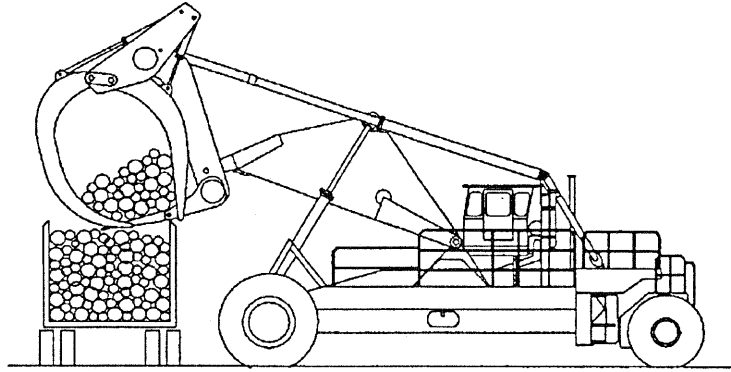

Fig 4-7
3. Work the tines through approximately 1/3 of the load. See Fig. 4-7.